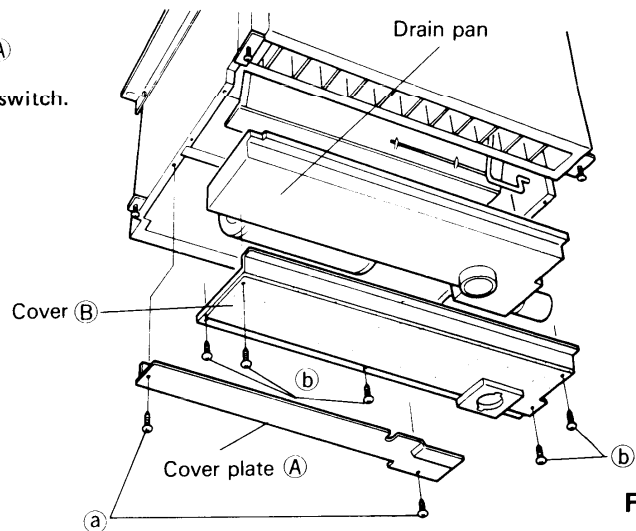

Fig. 8
- (1) Remove the two screws ① of the cover plate (A) and the five screws ② of the cover (B). In this case, remove the lead wires of the float switch.
- (2) Pull the drain pan from the unit. Fig. 8